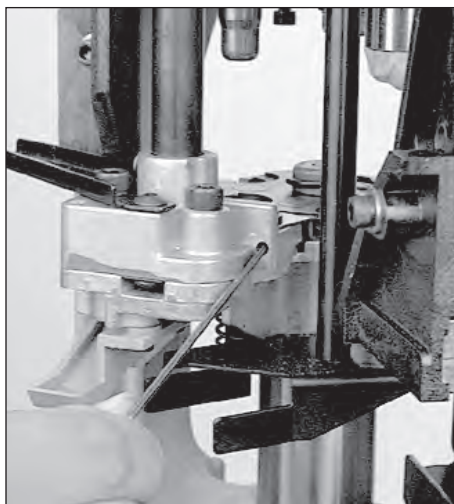

FIG 194
2. Using a 5/64" Allen wrench, insert it into the side of the primer feed body **FIG 194**. Turn the screw to adjust the locator tab. A turn clockwise will move the tab back away from the shellplate and a turn counter clockwise will